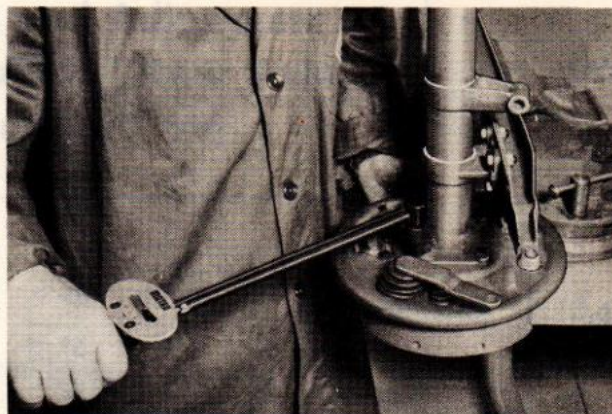

Fig.41
- 5. Fit entire axle tube assembly over shaft (Fig. 41). Screw in securing screws and tighten (25 ft/lb or 3.5 m/kg).